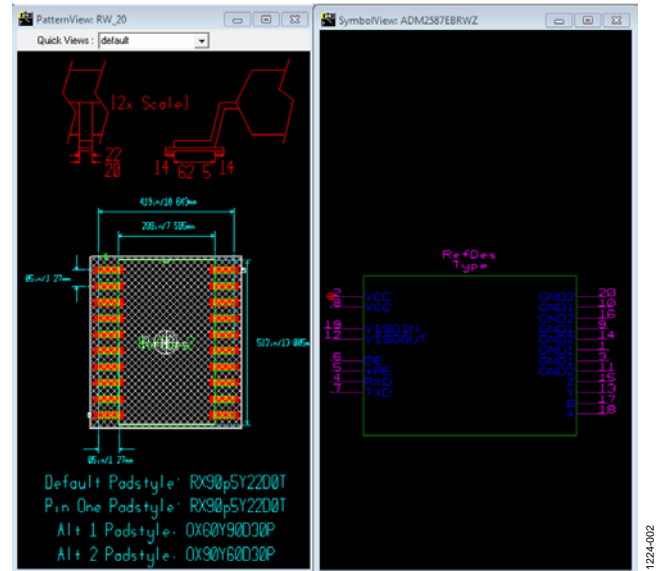

Figure 2. ADM2587E Isolated RS-485/RS-422 Transceiver Footprint and Symbol Window Using Ultra Librarian Reader
This loads the tool with both a footprint and symbol window (see Figure 2).
5. Both screens in Figure 2 can be zoomed by clicking within the black background using the left mouse button. Once the window is selected, pan by holding the right mouse button down, or zoom in and out using the + and – keys.